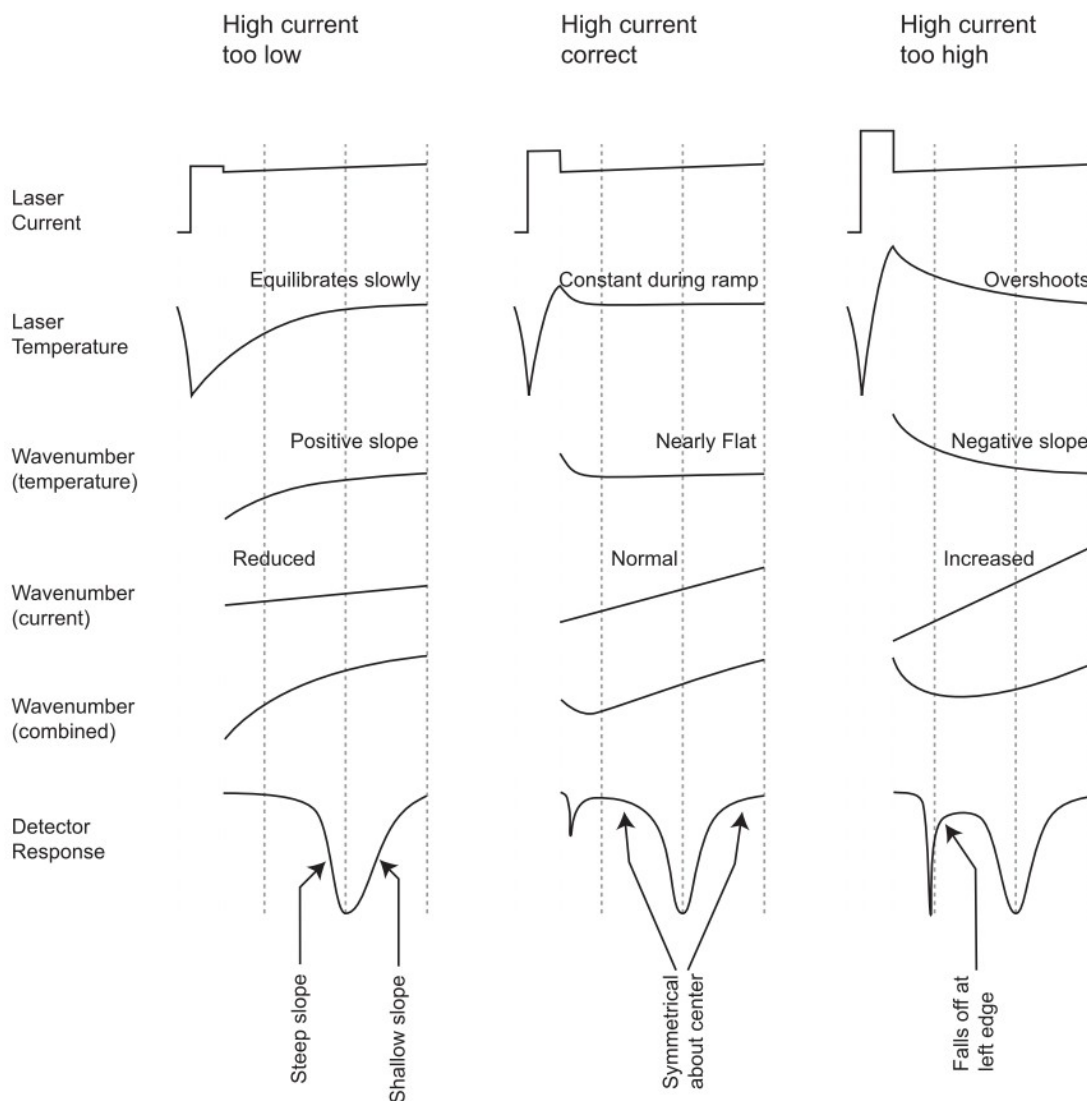
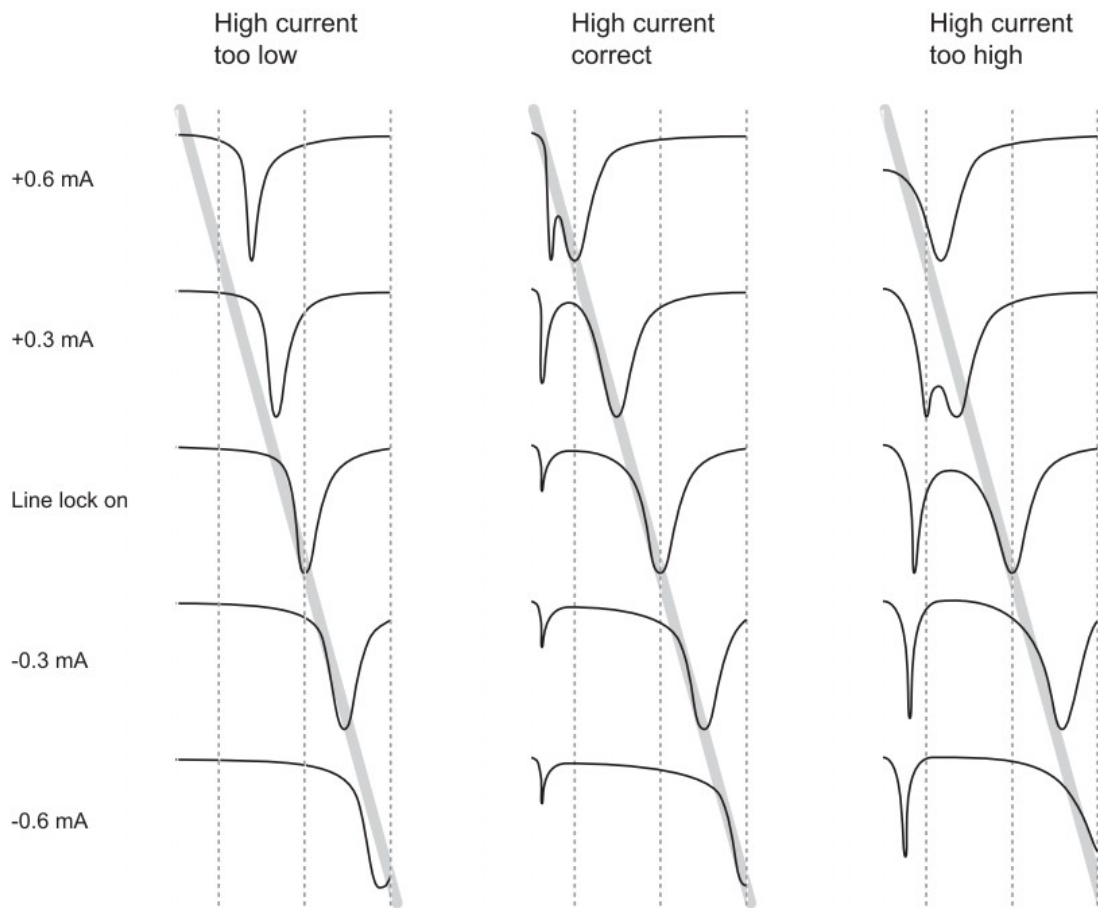

FIGURE C-6. Effects of temperature perturbation
FIGURE C-7. High current adjustment procedure
The laser cools slightly at the start of the spectral scan when it is turned off by reducing its current to the zero-current value, as discussed in Section 4.2.5, *Laser Scan Sequence*. If the actual spectral scan started immediately thereafter, the laser temperature would rise during the entire spectral scan. The rise in temperature would be more rapid at first, but slow near the end of the scan as the temperature approached equilibrium. The change in temperature would change the laser's emission frequency, adding an undesired spectral modulation, as illustrated in the far left panel of FIGURE C-6. To minimize this problem, the laser current is increased above the DC current by an amount specified in the *High current offset* parameter. The duration of this high current pulse is determined by the laser *High current count* parameter. When these parameters are properly set, the heat from the increased current compensates for the heat lost when the current is reduced, stabilizing the laser temperature more quickly.
As shown in FIGURE C-6, improper high-current adjustment makes the absorption line appear asymmetrical. The goal of the high-current adjustment procedure is to make the absorption line symmetrical about its center.
A more objective method to evaluate this symmetry is to adjust the DC current to move the absorption line to the left and right of the center line. If the high current is adjusted properly, the absorption line will move the same distance left/right of center for the same change (\pm) in DC current. This is illustrated in FIGURE C-7. The left panel shows that with the high current too low, changing the DC current by $+0.6$ mA moves the absorption line only halfway to the left edge of the scan, but changing the DC current by -0.6 mA moves it all the way to the right edge of the scan. In the center panel, the absorption line moves symmetrically, all the way to the left and right edge of the spectral scan for the same (\pm) change in DC current.
12. Evaluate the results and iterate as needed using the steps below and referring to FIGURE C-7:
- If the high current is too high, the laser's frequency will overshoot the absorption line at the beginning of the spectral scan, quickly scan backwards through the absorption line, and then scan forward through the absorption line. This is visible in the reference detector display as a second narrow absorption line at the left edge of the spectral scan data. See FIGURE C-6 and FIGURE C-7. This is acceptable as long as this "ghost" line is in the omitted part of the scan. But if the signal falls off at the left edge of the scan as illustrated in the lower right of FIGURE C-6, the high current must be reduced (even if the "counting steps" criterion indicates the high current is already too low).
- When incrementing the DC current, it may not be possible to move the absorption line to the left edge because the two absorption lines (the true line and its "ghost") may merge just inside the left vertical dotted line (see FIGURE C-7, top right). This also indicates the high current is too high.